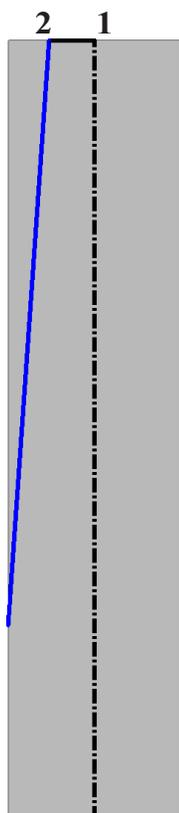

Fig. 10
Step 5. Click **Line**  (L) on the Sketch toolbar.
Step 6. Sketch two lines, **Fig. 10**. Start line at top endpoint of centerline, **Position 1**. Extend line part way across rear edge to **Position 2**. Sketch a second line from **Position 2** down to side edge to **Position 3**.